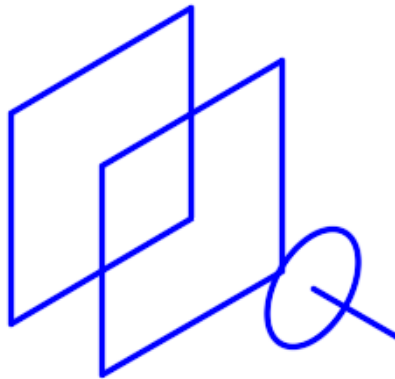

Figure Step 20
Step 20 Turn off layer: Solid Off. Change the layer of the solid that you just created in Step 18 to layer: Solid Off. (Figure Step 20)